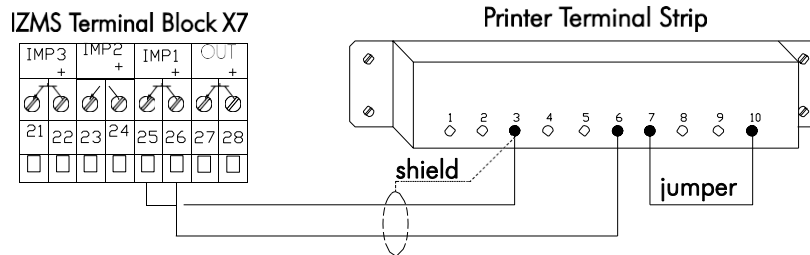

Figure 3-15. Veeder-Root Series 7690 Ticket Printer Signal Wiring Configuration
- P Veeder-Root Series 7690 Ticket Printer, AMS P/N: TP-769 (Figure 3-15)